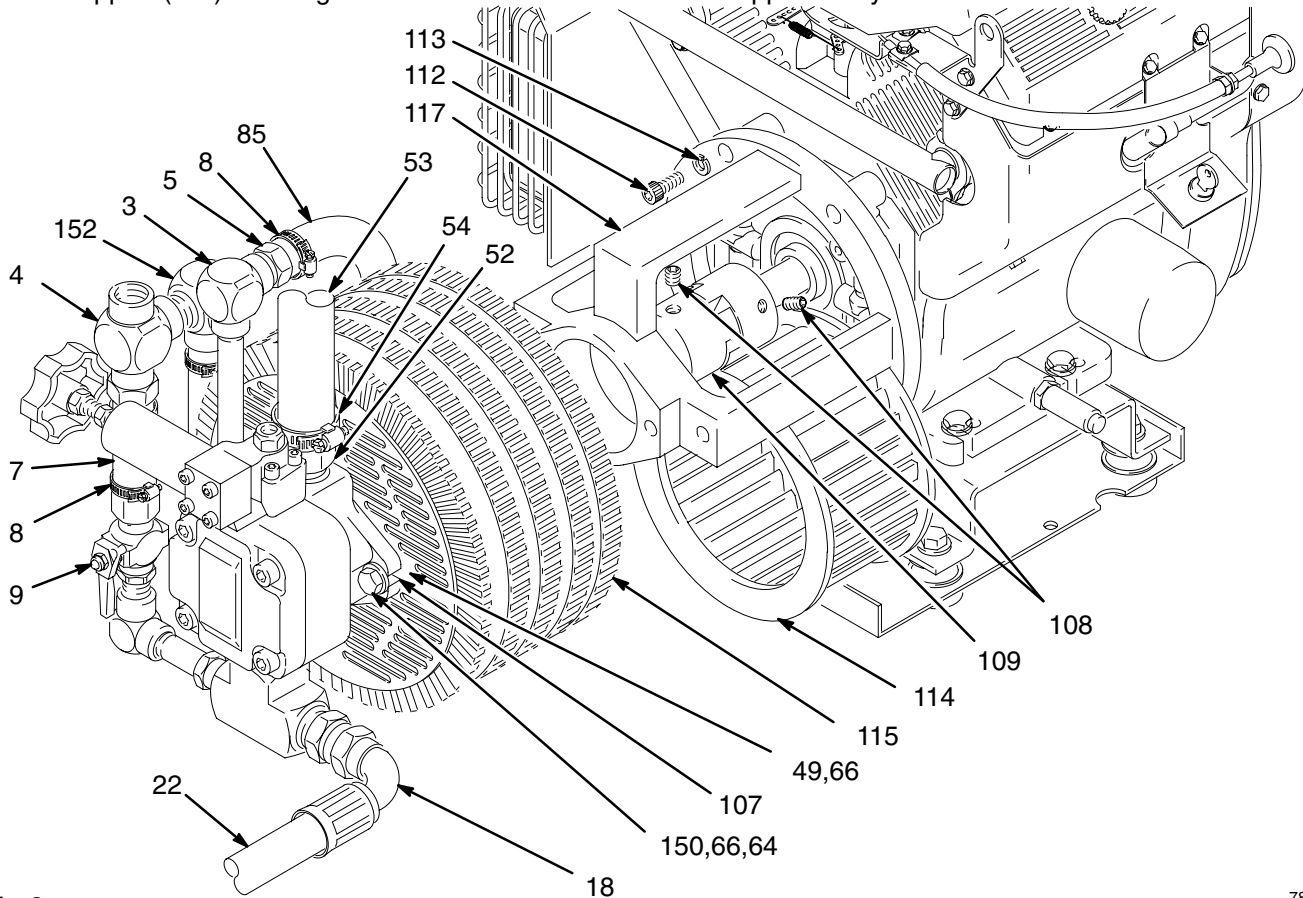

Fig 8
2. Unscrew the reservoir drain plug (51), having a container ready to catch the draining fluid.
3. Disconnect the hose (7) from the bypass valve (9) by loosening the hose clamp (8). See Fig 8.
4. Loosen the hose clamp (8) and pull the hose (85) off the hose insert (5) near the elbow (3). See Fig 8.
5. Loosen the hose clamp (54) on the hose (53) just above the hydraulic pump (107). See Fig 8.
6. Loosen the tube fitting nut (18) of hose (22). See Fig 8.
7. Remove the two capscrews (150), lockwashers (66) and washers (64) holding the pump (107) to the support (117). See Fig 8.
3. Disconnect the cooler to reservoir return hose (7.) by loosening the hose clamp (8). See Fig 8.
4. Remove the cooler capscrews (49) and lockwashers (66). See Fig 8.
5. Remove the fan guard (23). See Fig 8.
6. Pull the cooler (115) straight out.
8. Inspect the blower wheel (114) for wear. See Fig 8. If it needs to be replaced, follow Steps 8a–8e.
- b. Remove the capscrews (112) and lockwashers (113) holding the pump support (117) to the engine and pull the support off. See Fig 8.
- d. Install a new blower. Secure the pump support (117) to the engine. See Fig 8.
10. Fold the flaps of the pad (116) toward the cooler fins and install the fan guard (23), capscrews (49) and lockwashers (66). See Fig 8.